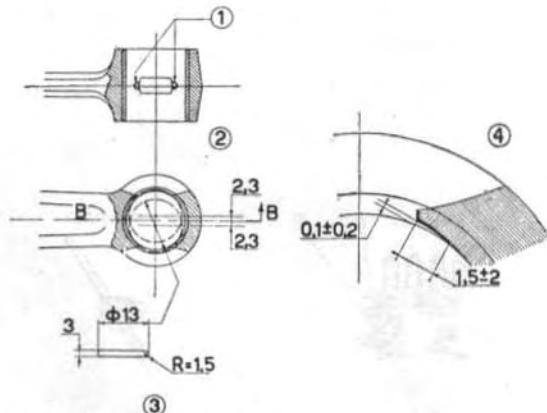

Fig. 18 - Chamfers on con.rod small end
7. - In order to improve the flow of lubricant to the wrist pin and bush on con.rod small end while the engine is running, chamfer the four points indicated on Fig. 18, either by means of a circular milling cutter (suggested procedure) or with a \varnothing 2.5-3 mm rat tail file.